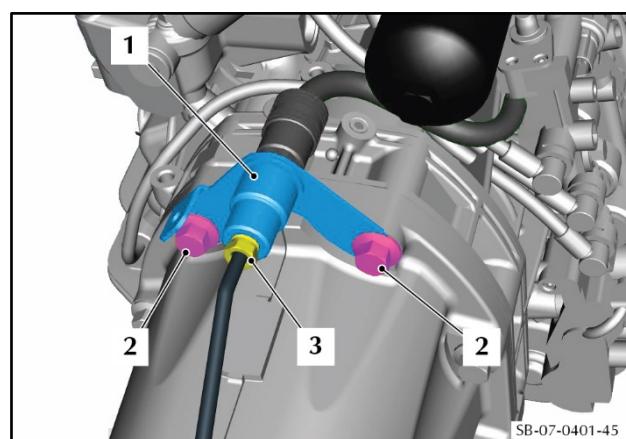

Figure 47
90. Put the new bracket assembly (1) for the transmission tube in position. Align the bracket with the two remaining holes in the torque tube (refer to Figure 47).
91. Install the last two bolts (2) that attach the transaxle to the torque tube.
93. Connect the tube assembly for the slave cylinder (3) to the bracket assembly (1).